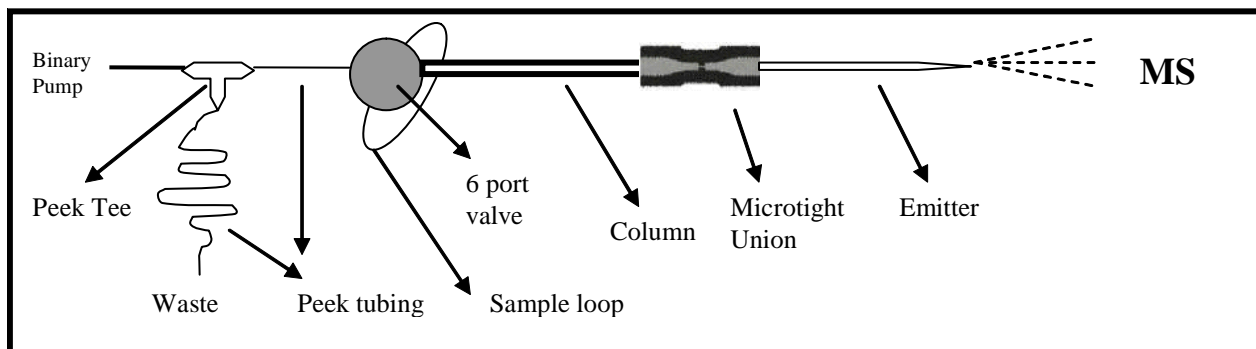

Figure 1. Diagram of nano-LC/MS system
4. Connect all parts according to the diagram in Figure 1.
Figure 1 shows the total ion chromatogram of peptide standard sample. All peptides are very well separated. The sample was injected three times in order to examine the reproducibility for gradient elution. The results are listed in Table 1.